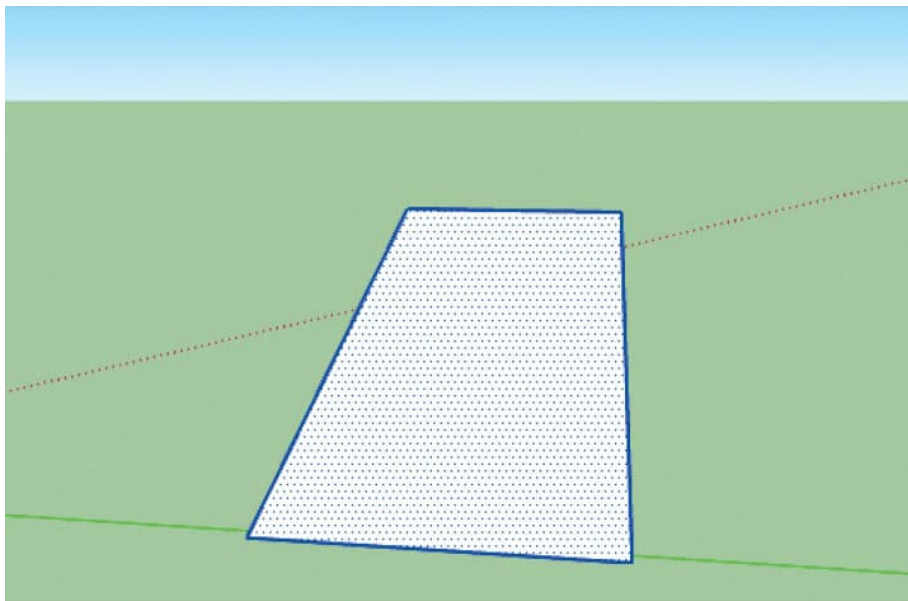

FIG. 2: Draw a bracket for the wing.
2. Design the wing for the model by using the **Line** tool to draw the rear wing bracket (fig. 2).